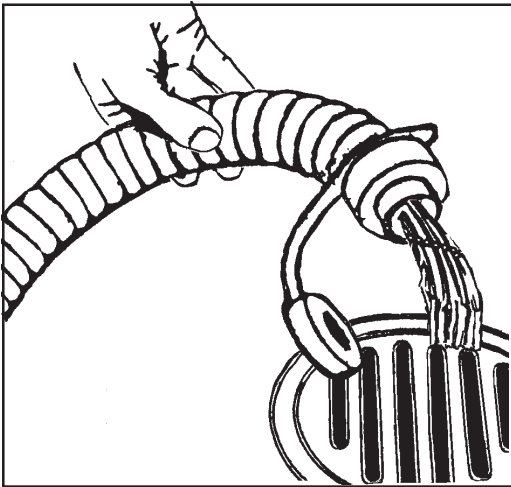

Figure 6
3. When cleanup is complete, empty the liquid by opening the drain valve on the drain hose. See figure 6.